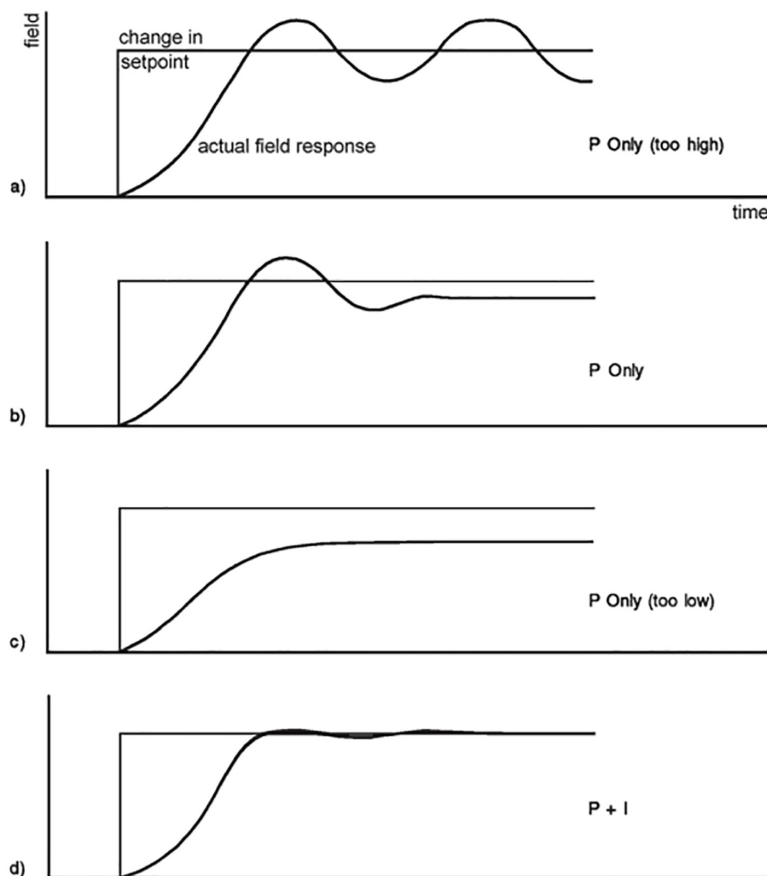

FIGURE 3-17 Examples of PI control
The PI control equation has two variable terms: proportional (P) and integral (I), see below. See FIGURE 3-17. Changing these variables for best control of a system is called tuning. The PI equation is:
To find the correct proportional setting for a system, turn off the I setting and start with a low value for P, approximately 5 or 10. And set the control setpoint to some low, non-zero field (100 mT for example). If the field is oscillating, then P is too high and needs to be reduced. If the field is not oscillating, increase P by a factor of two until the system begins to oscillate. See FIGURE 3-17(a). Do not set the proportional setting so high that it causes violent oscillations. The appropriate value for P is one half of the value required for sustained oscillation. An even lower setting of one quarter may be desired for minimal overshoot. See FIGURE 3-17(b).
When the proportional setting is chosen and the integral is turned off, the teslameter will control the field to some value below the setpoint. Setting the integral allows the control algorithm to gradually eliminate the difference in field by integrating the error over time. See FIGURE 3-17(d). An integral setting that is too low causes the field to take too long to reach the setpoint. An integral setting that is too high can create overshoot, which cannot be tolerated in many magnetic systems. An integral setting that is very high will eventually cause the field to oscillate.